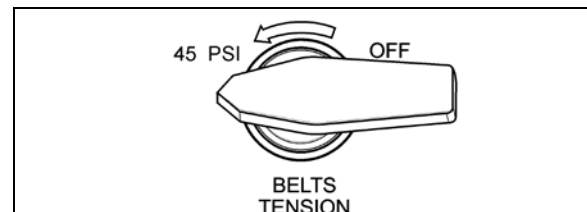

FIGURE 11: BELT TENSIONER VALVE ON REAR CONTROL PANEL
8. Locate the A/C compressor belt tensioner pressure releasing valve (if so equipped). Turn pressure releasing valve handle counterclockwise in order to release pressure in belt-tensioner air bellows and loosen belts (Figure 11). Remove the belts.